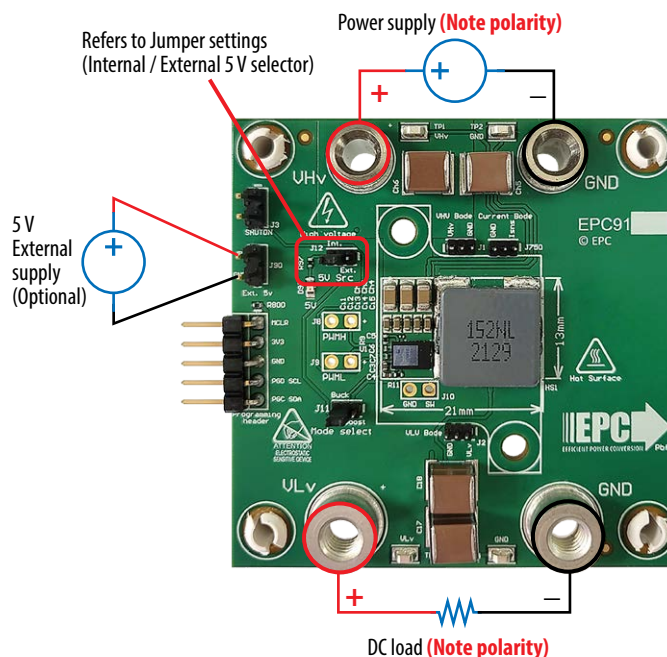

Figure 5: Power and load connections to the EPC9177 evaluation board, configured in Buck mode.
The EPC9177 can be configured to operate as a buck or boost converter. To operate the EPC9177 in buck mode (default), connect the input supply to the load as shown in figure 5.
The operating procedure is provided for **buck** mode only. The EPC9177 demonstration board is easy to set up to evaluate the performance of the EPC23102 eGaN IC. Refer to figures 5, 6, 7, 8, 9 and 10 for proper connection and measurement setup and follow the procedure below to operate the board:
2. With power off, connect the input power supply between VHV (J6) and GND (J4). Pay careful attention to the polarity as shown in figure 5. A shunt can be inserted in series with the positive supply to measure the input current. Note that shunt measurement must be floating with respect to GND.
3. With power off, connect a suitable load between VLV (J7) and GND (J5). Pay careful attention to the polarity as shown in figure 5.
4. Ensure the jumper on J12 is in position 2-3 (Ext). With power off, connect a controller power supply set to 5 V to J90. Pay careful attention to the polarity as shown in figure 5. This power supply must be capable of supplying at least 200 mA of current.